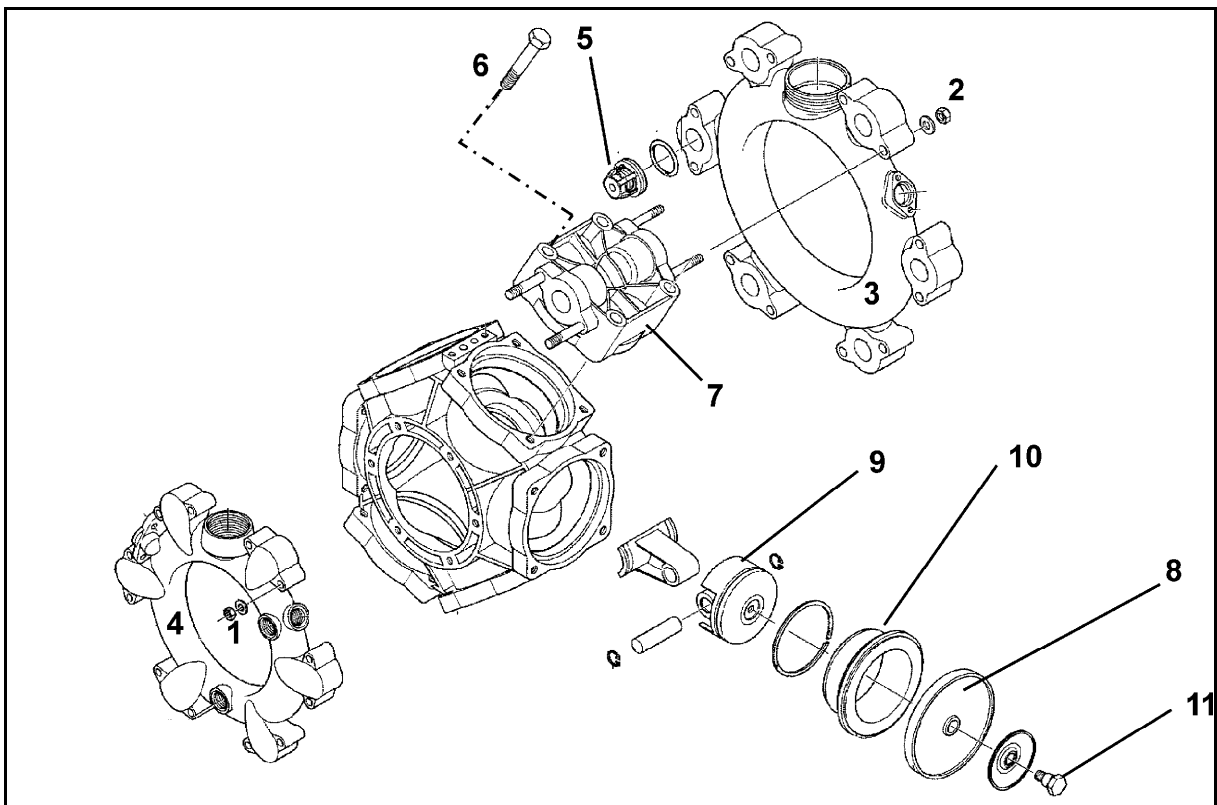

Fig. 176
- At least once a year, check that the piston diaphragm (Fig. 176/8) is in perfect condition by removing it.
- Pay attention to the respective installation positions of the valves on the suction and pressure sides before removing the valve groups (Fig. 176/5).
- As a rule, replace all piston diaphragms (Fig. 176/8), even if only one piston diaphragm distorted, punctured or porous.
2. Slacken the nuts (Fig. 176/1, 2).
3. Remove the suction and pressure port (Fig. 176/3 and Fig. 176/4).
4. Remove the valve groups (Fig. 176/5).
5. Remove the screws (Fig. 176/6).
6. Remove the cylinder head (Fig. 176/7).
7. Check the piston diaphragm (Fig. 176/8).
- Secure the piston diaphragm (Fig. 176/8) with a washer disc and a screw (Fig. 176/11) on the piston (Fig. 176/9), so that the rim shows on the cylinder head side (Fig. 176/7).
- Always tighten the nuts (Fig. 176/1,2) in a crosswise fashion using the specified torque. Improper tightening of the nuts causes warping, which results in leaks.
1. Undo the screw (Fig. 176/11) and remove the piston diaphragm (Fig. 176/8) and the washer disc from the piston (Fig. 176/9).
3. Remove the hydraulic cylinder (Fig. 176/10) from the pump housing.
6. Insert the cylinder (Fig. 176/10) back into the pump housing.
7. Fit the piston diaphragm (Fig. 176/8).
8. Mount the cylinder head (Fig. 176/7) on the pump housing and tighten the screws (Fig. 176/6) an equal amount in a crosswise fashion.
9. After testing and cleaning, fit the valve groups (Fig. 176/5).
11. Mount the suction (Fig. 176/3) and pressure port (Fig. 176/4) on the pump housing.
12. Tighten the nuts (Fig. 176/1,2) in a crosswise fashion using a torque of **11 Nm**.